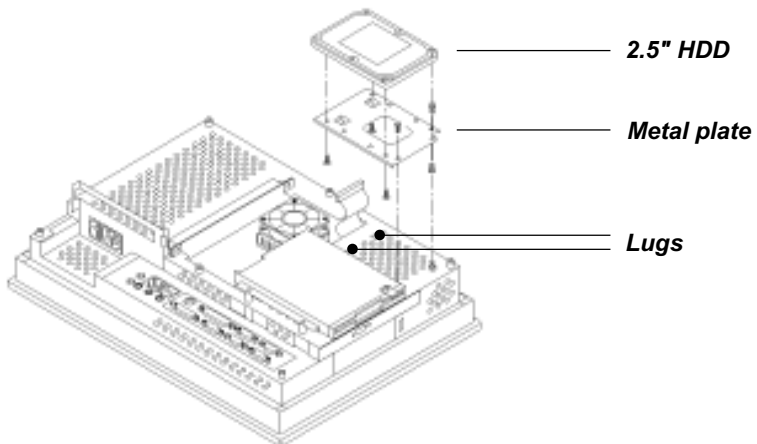

Figure 4-2: Installing the primary 2.5" HDD
2. There is a metal plate holding the HDD on the upper right-hand side of the shielding case. (See Fig. 4-2.) Remove the two screws on the metal plate.